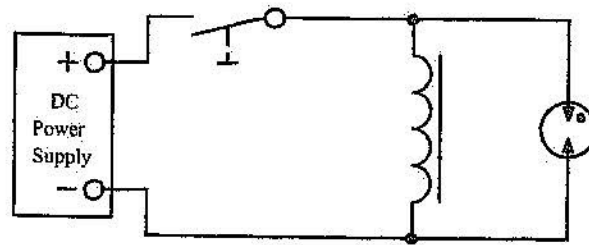

Figure 7
6. Connect the circuit as shown in figure 7, using one coil and a neon lamp.
8. What was the approximate self induced emf developed by the coil in the circuits of figures 7, 8 and 9?
9. If the iron core in the circuits of figures 7, 8 and 9 was removed, what would happen to the level of the self induced emf?